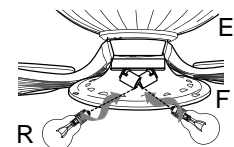

Fig. 7
7. Install two candelabra base 60 watt max. bulbs (R) included. [Fig. 7]